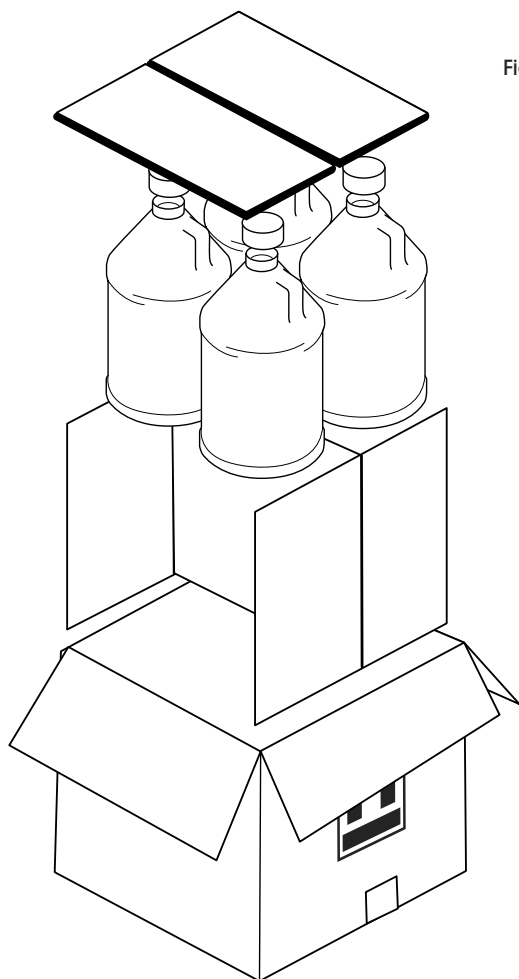

Figure 1
5. Fold the H-Divider and place into the carton. (See figure 1)
6. Place jugs into carton - bottom first. There should be two bottles on each side of the H-Divider spine. (See Figure 1)
7. Place the top pad inserts on top of the filled bottles. The inserts should fit nicely into the cells created by the H-Divider. (See Figure 1)